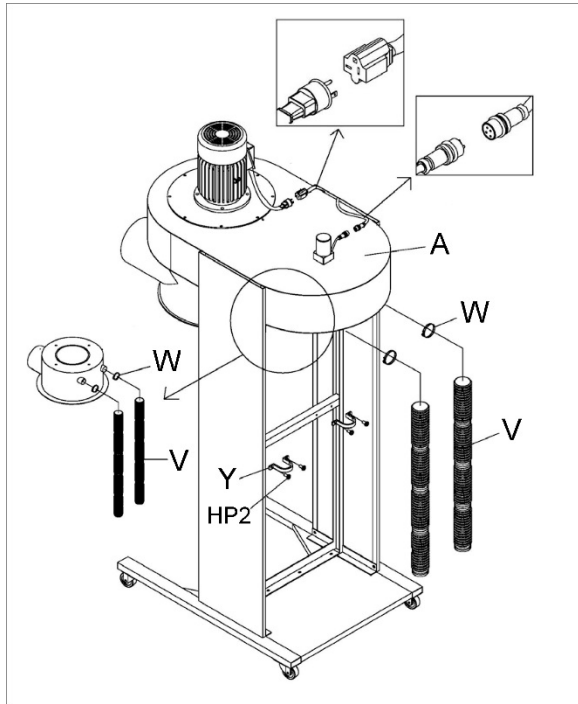

Figure 11
18. Mount hoses (V, Figure 11) to the two ports on housing (A) and secure with hose clamps (W).
19. Position hoses (V) in hose hangers (Y) and secure hangers to frame with pan head screws (HP2).
20. Connect main motor cord and reduction motor cord, as shown in Figure 11 insets.